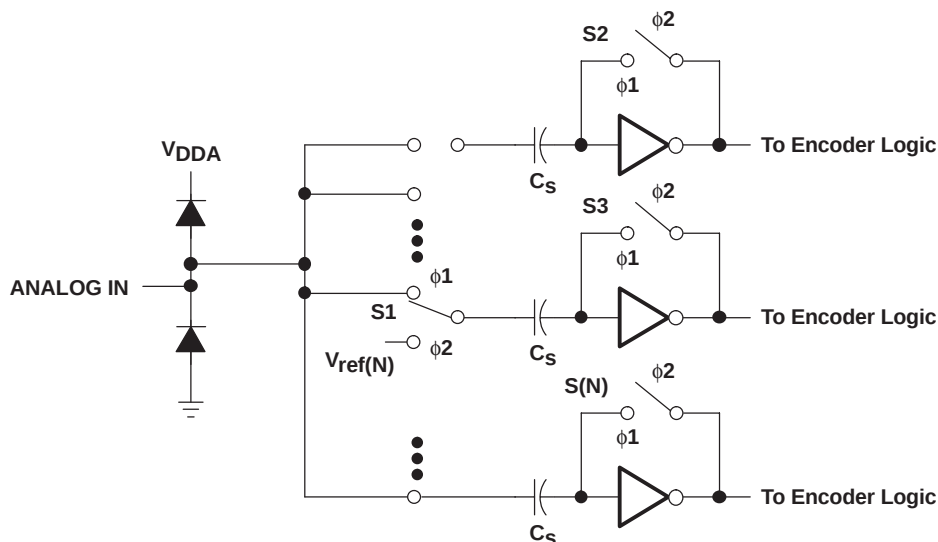

Figure 13. External Connections for Using the Internal Reference Resistor Divider
Figure 13 depicts the analog input for the TLC5540. The switches shown are controlled by two internal clocks, ϕ_1 and ϕ_2 . These are nonoverlapping clocks that are generated from the CLK input. During the sampling period, ϕ_1 , S1 is closed and the input signal is applied to one side of the sampling capacitor, C_S . Also during the sampling period, S2 through S(N) are closed. This sets the comparator input to approximately 2.5 V. The delta voltage is developed across C_S . During the comparison phase, ϕ_2 , S1 is switched to the appropriate reference voltage for the bit value N. S2 is opened and $V_{ref(N)} - VC_S$ toggles the comparator output to the appropriate digital 1 or 0. The small resistance values for the switch, S1, and small value of the sampling capacitor combine to produce the wide analog input bandwidth of the TLC5540. The source impedance driving the analog input of the TLC5540 should be less than 100 Ω across the range of input frequency spectrum.